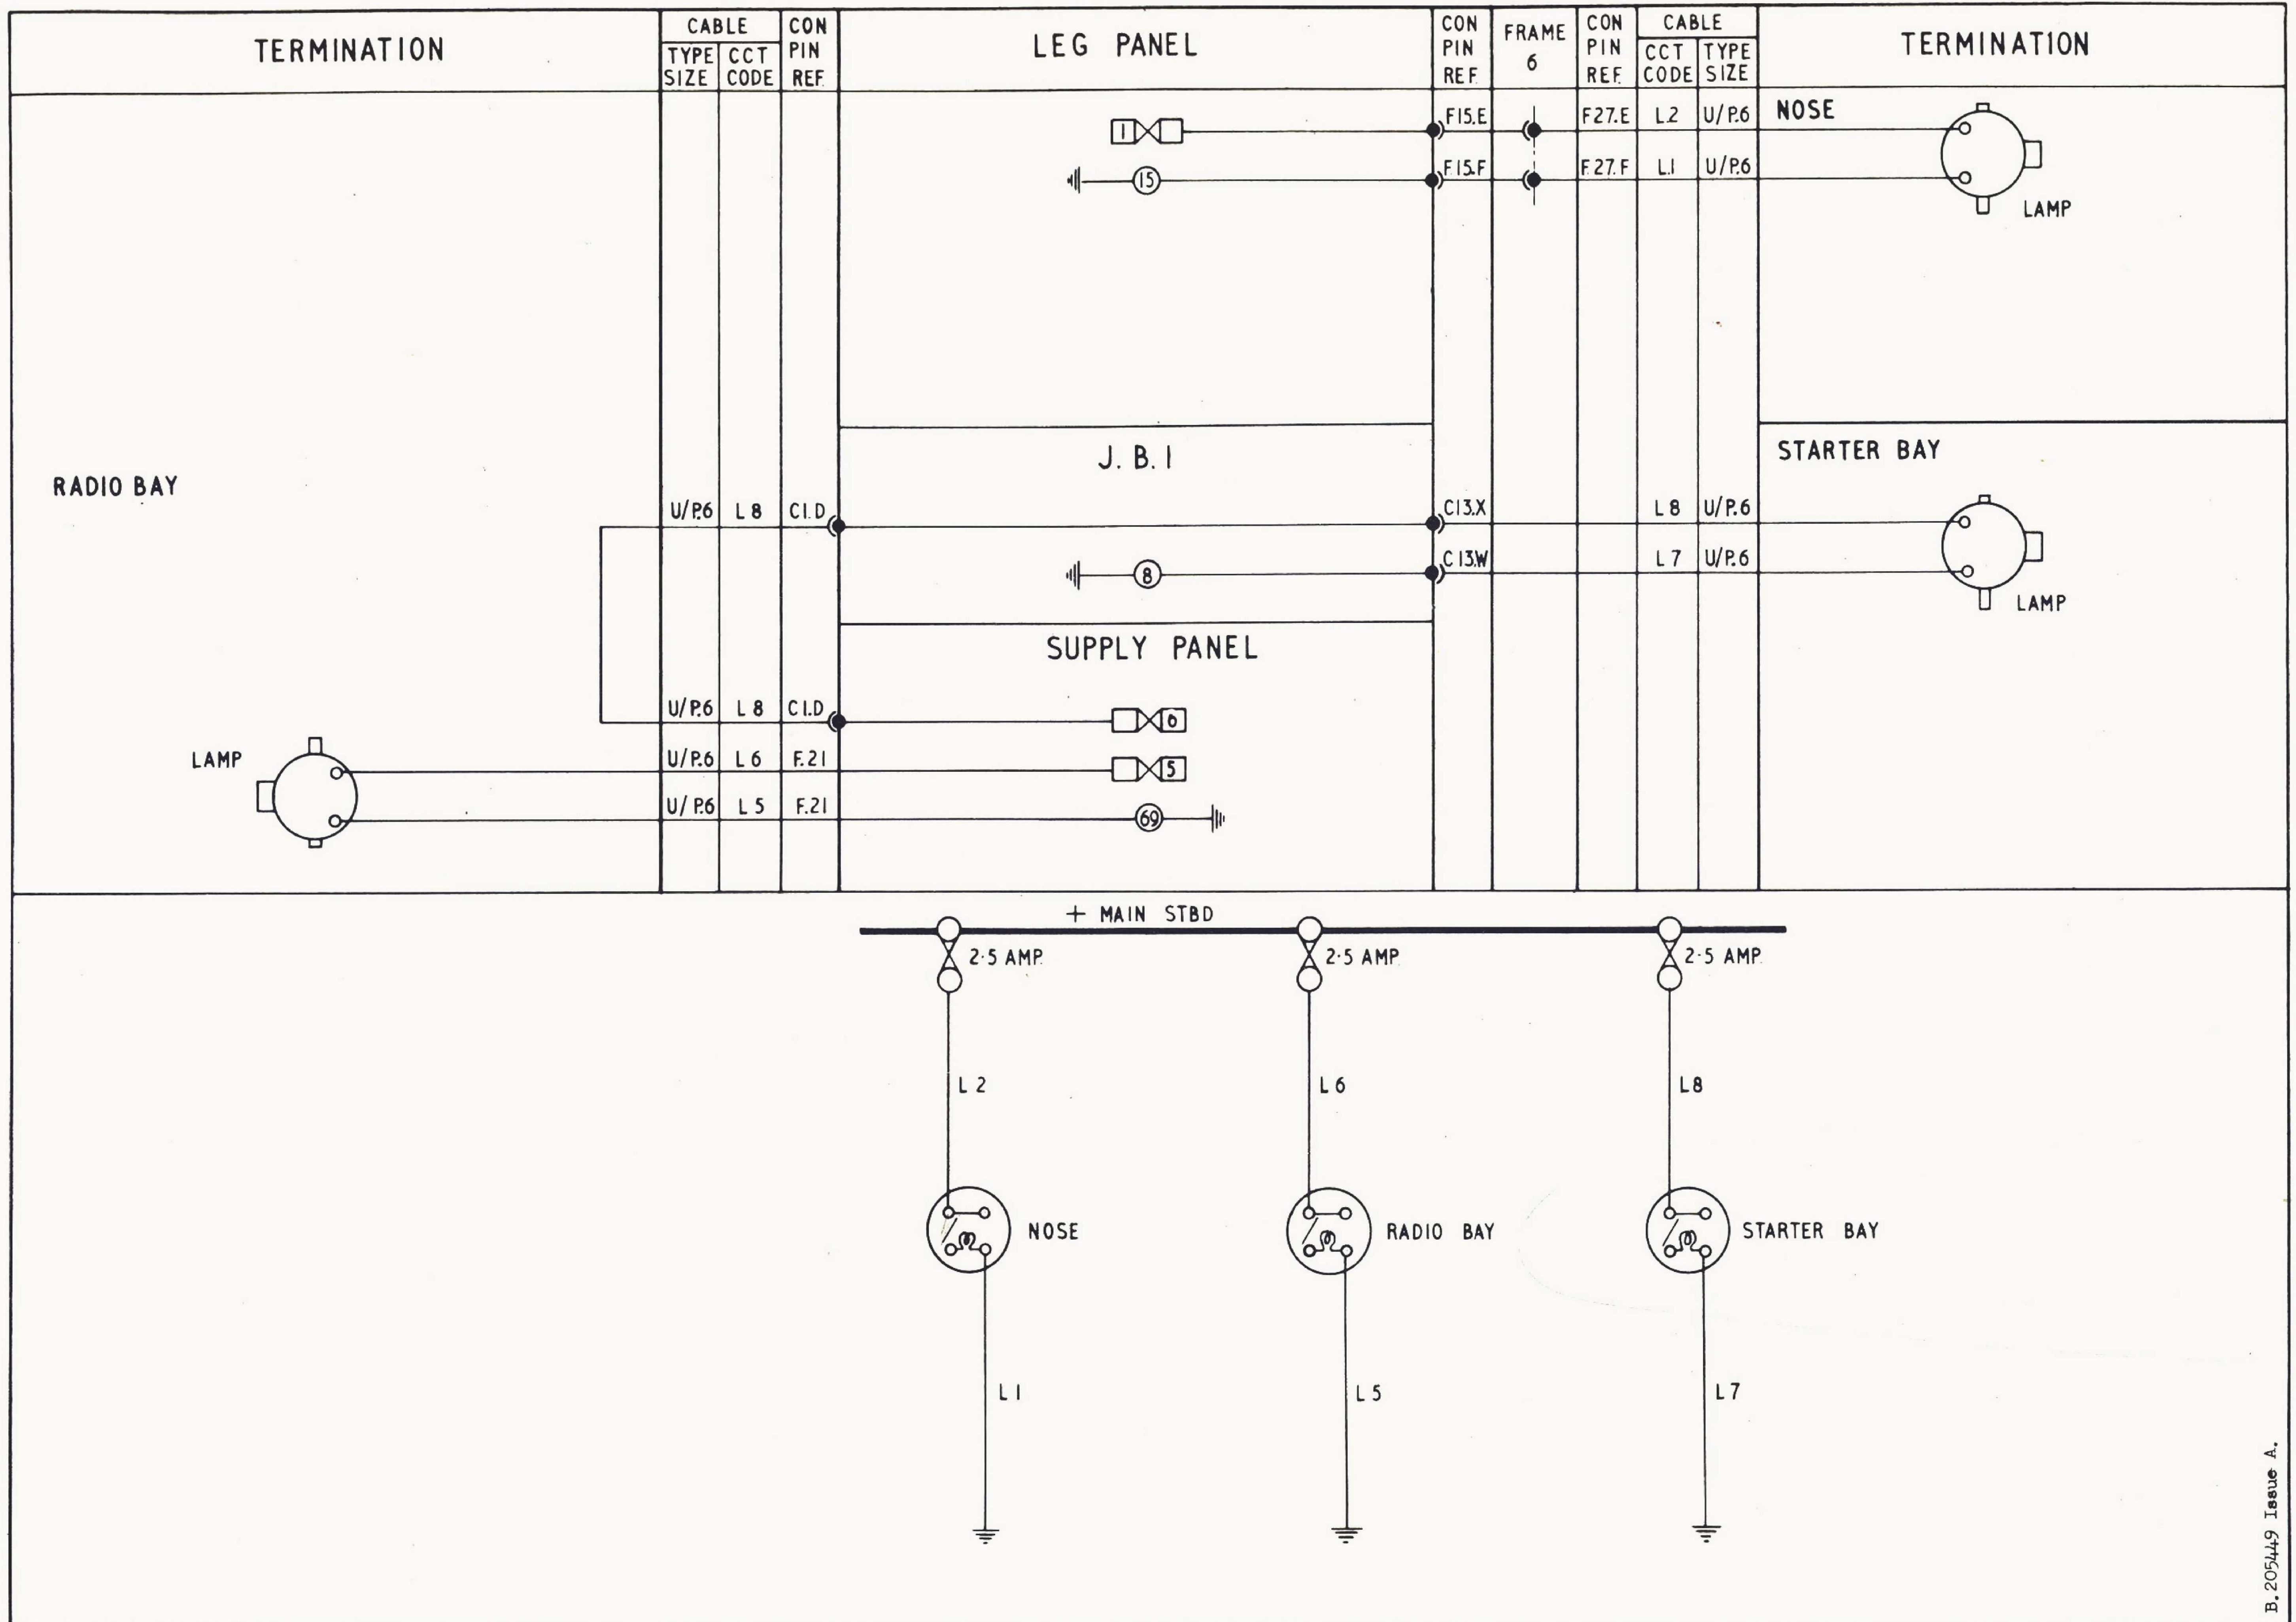

FIG. 1 SERVICING LAMPS
3. The operation of the circuit should be apparent, once reference is made to the theoretical diagram given in fig.1 of this group.